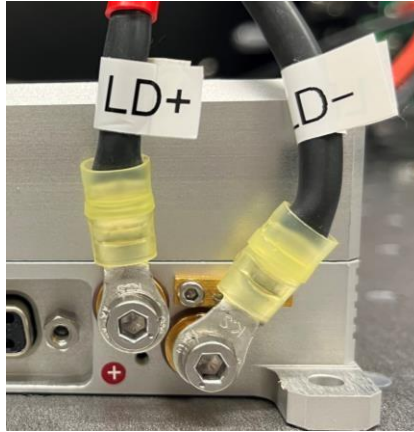
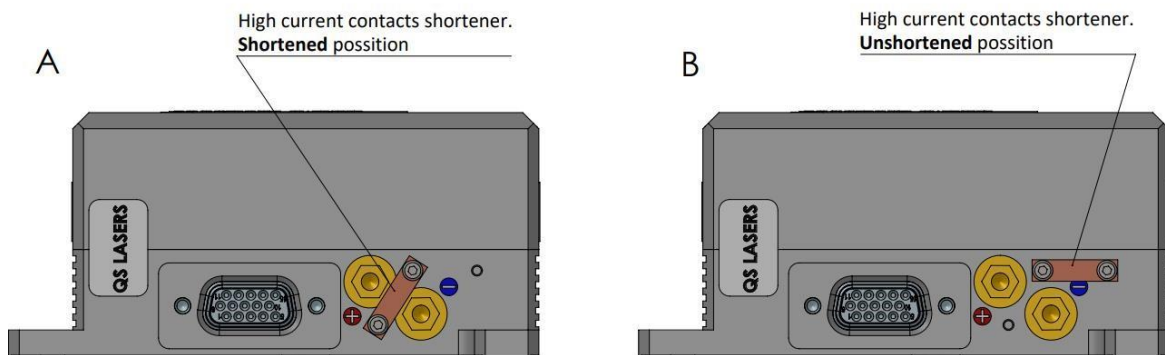

Fig. 14. Rear panel of laser head.
Fig. 15. High current contacts are shortened during transportation to avoid laser diode damage.
8. Remove and fix shortening contacts of Laser diode as shown in the picture (**Fig 14**). Please refer to **Fig. 15**.